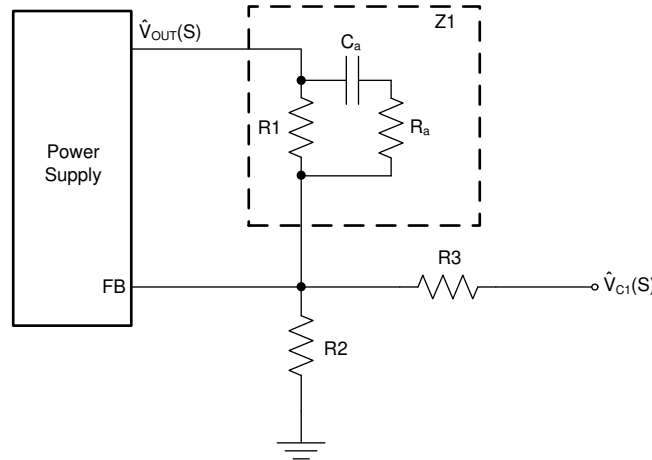

Figure 2-6. Block Diagram With Margining Circuit (Type-3 Compensator)
For the Type-3 compensator, there is an R-C network in parallel with R1. In this case, Z1 must be used to replace R1 as shown in Figure 2-6 and Equation 14.
- Z1 is defined in Figure 2-6